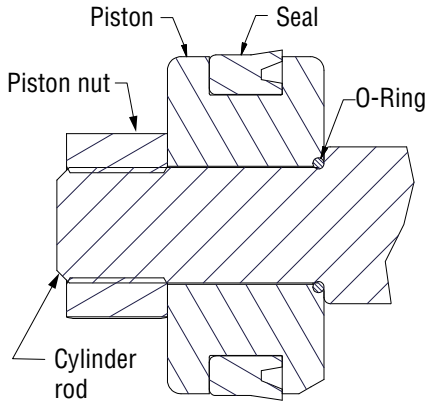

Figure 5-8, Piston Seal
2. Note the direction of the seal on the piston. Improper installation will result in poor performance. The cupped side or O-ring side of the seal should be facing the gland cap. (Figure 5-8)